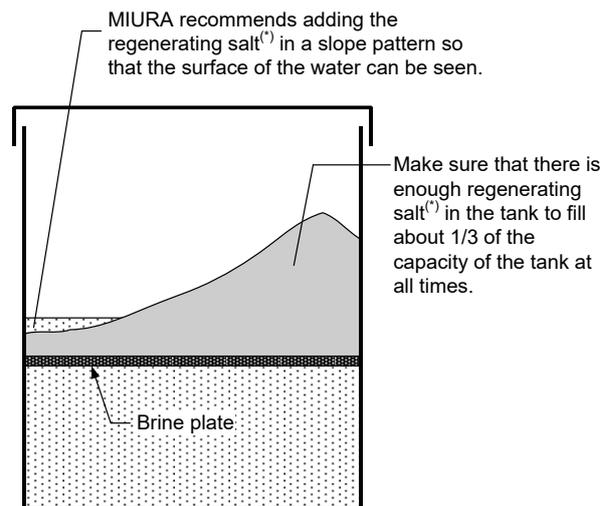
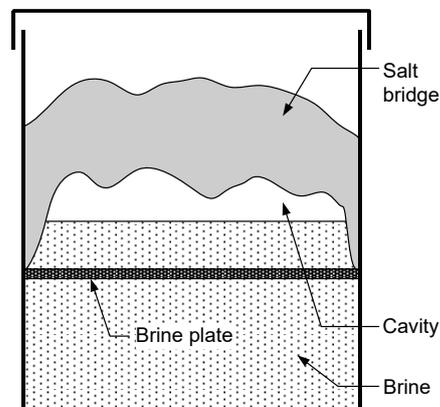

Figure 3-3: Replenishing regenerating salt(\*)
Figure 3-4: Formation of a salt bridge
- If too much salt is added, it may absorb water and harden to form a cavity in it as shown in Figure 3-4. Such a state of hardened regenerating salt(\*) is called a salt bridge. If this kind of state forms, it will become impossible to produce the brine required for regeneration(\*). To avoid this, MIURA recommends adding only enough so that the surface of the water can be seen as shown in Figure 3-3. Should a salt bridge happen to form, break it up with a stick or the like, taking care not to damage the brine plate.